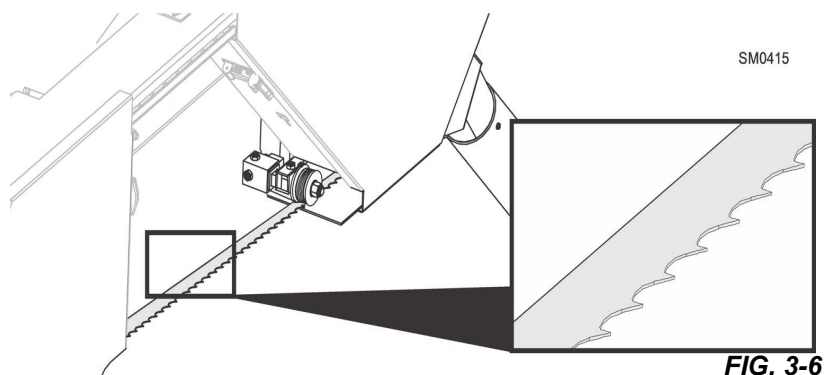

FIG. 3-6
4. Make sure the teeth are pointing the correct direction. **See FIG. 3-6.**